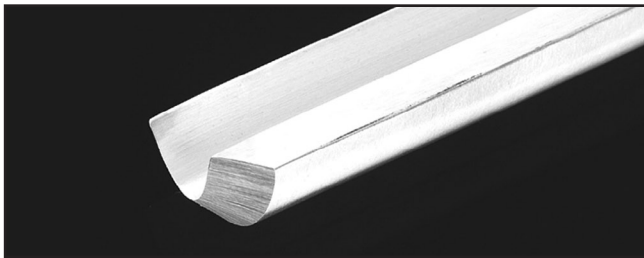

Figure 18. Gouge.
- **Gouges**—Mainly used for rough cutting, detail cutting, and cove profiles. The rough gouge is a hollow, double-ground tool with a round nose, and the detail gouge is a hollow, double-ground tool with either a round or pointed nose. **Figure 18** shows an example of a gouge.